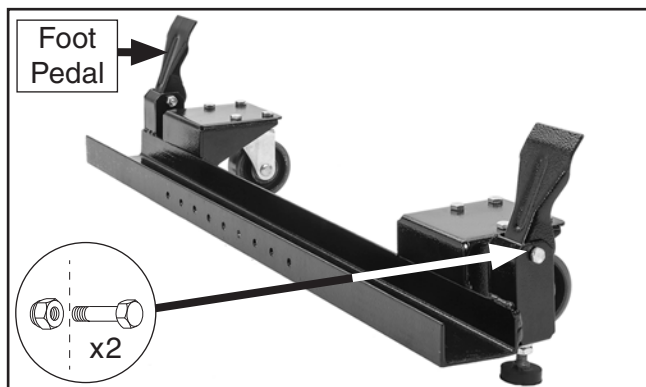

Figure 7. Foot pedals attached to support brackets.
7. Attach foot pedal to each side of support bracket using (1) M8-1.25 x 50 shoulder screw and (1) M8-1.25 lock nut (see **Figure 7**).